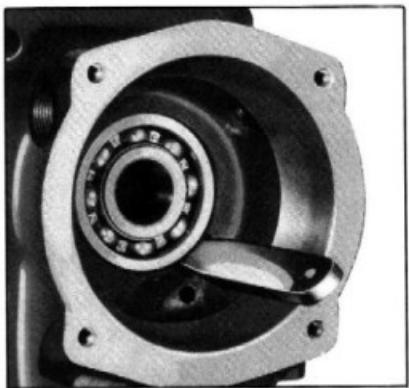

Fig. 6—Removing Rear Bearing
- Expand the rear bearing lock ring into the case with the special expanding tool, J-935. This raises the lock ring from the groove in the bearing and the bearing may be removed by lightly tapping the outer race toward the inside of the case, Fig. 6. It is necessary to remove the rear bearing before attempting to remove the countergear.
2. Start the bearing in from the rear, and use the lock ring expanding tool, J-935, to expand the ring into the case. Refer to Fig. 6.